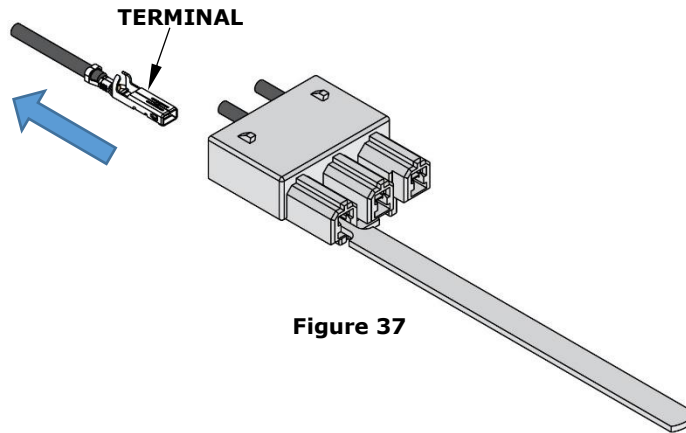

Figure 37
8. With the locking tab depressed, gently pull on the wire to remove the terminal. See Figure 37.